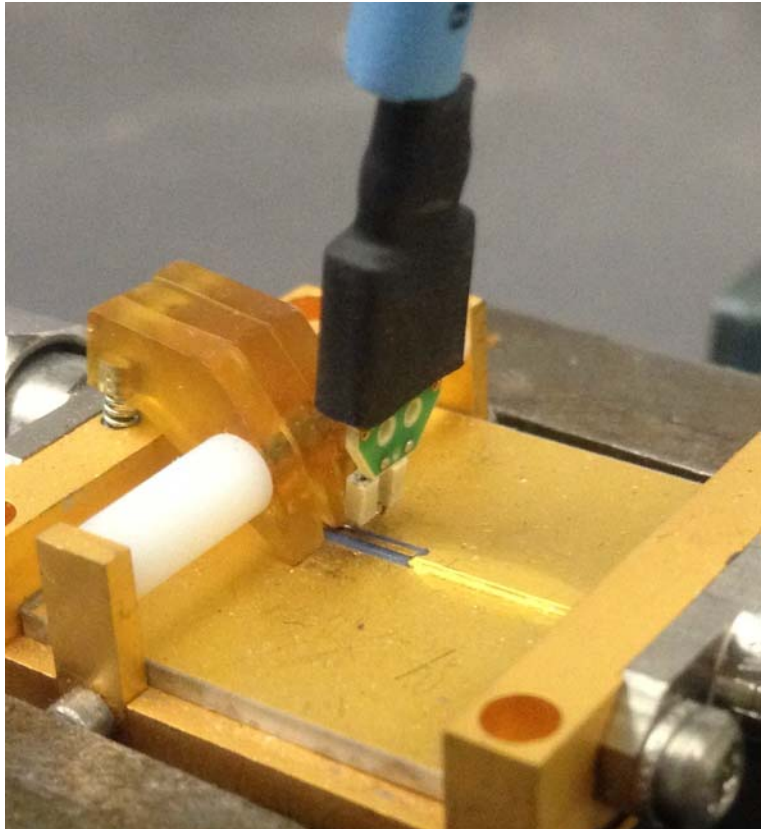

Figure 81 Close-Up of Tip Wires Positioned Under Pincher
- c Depress the actuators on the pincher and carefully insert one wire under the center pincher and the other wire under one of the side pincher. Either polarity of the probe can be tested and will yield the same results (but opposite phase) if the probe is working properly. **Figure 81** on page 125 shows a close up of the tip wires positioned under the pincher.